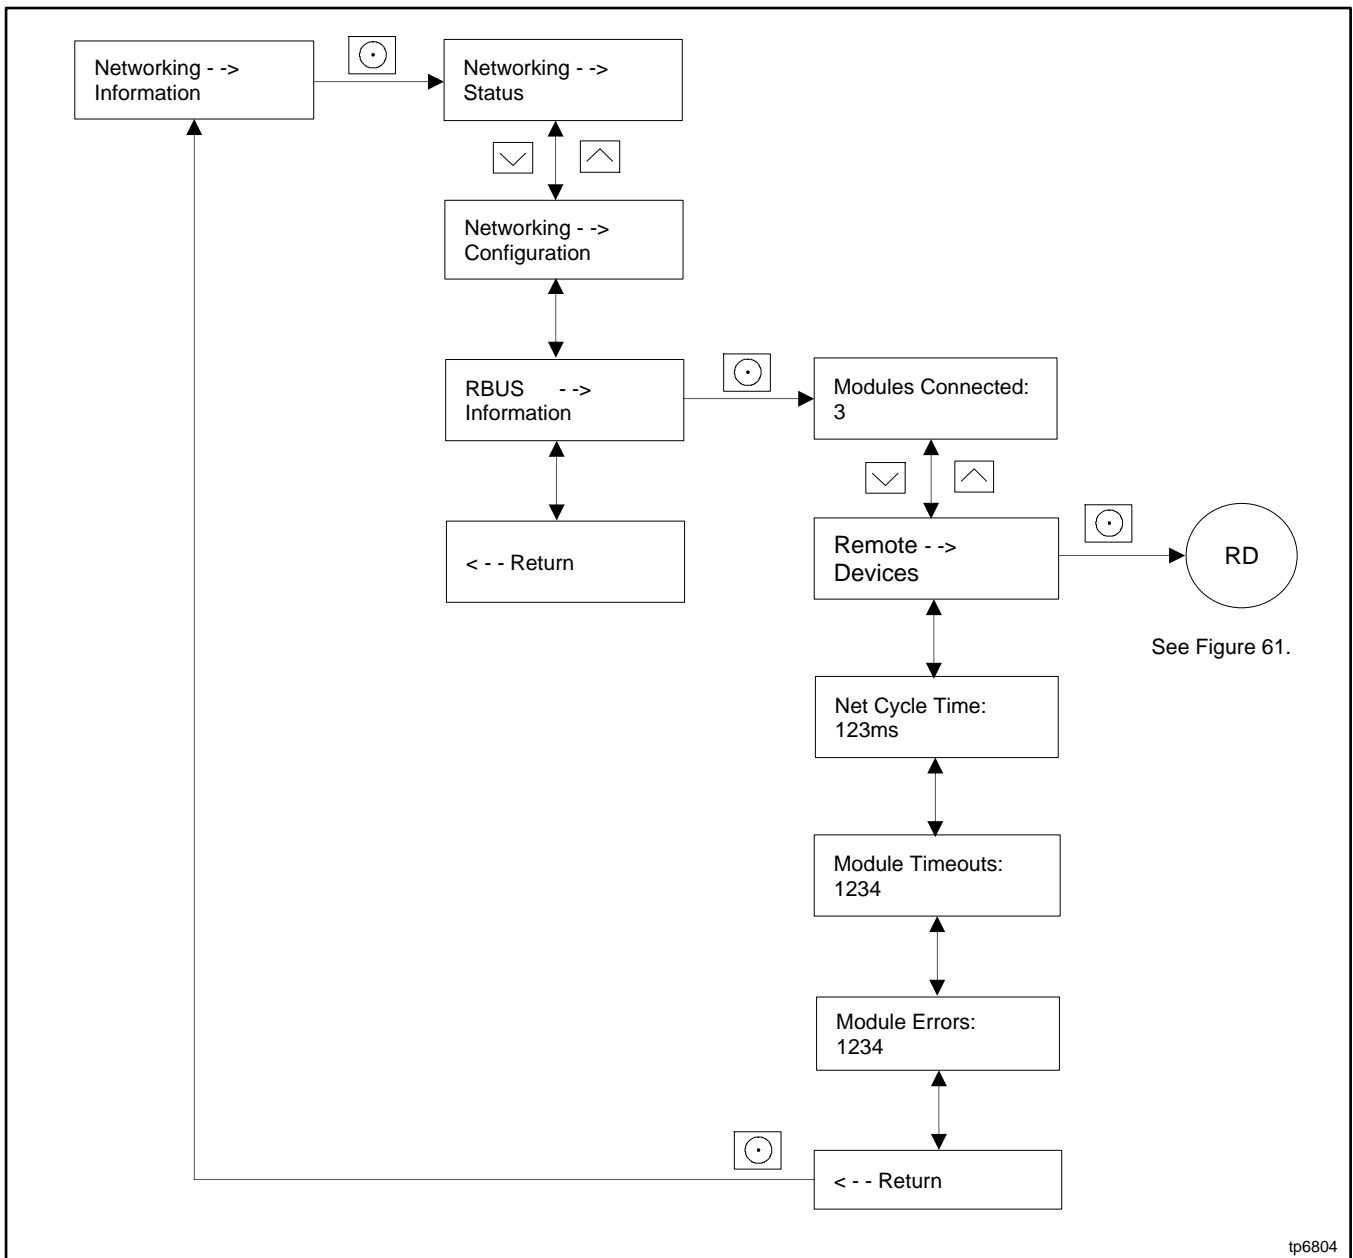
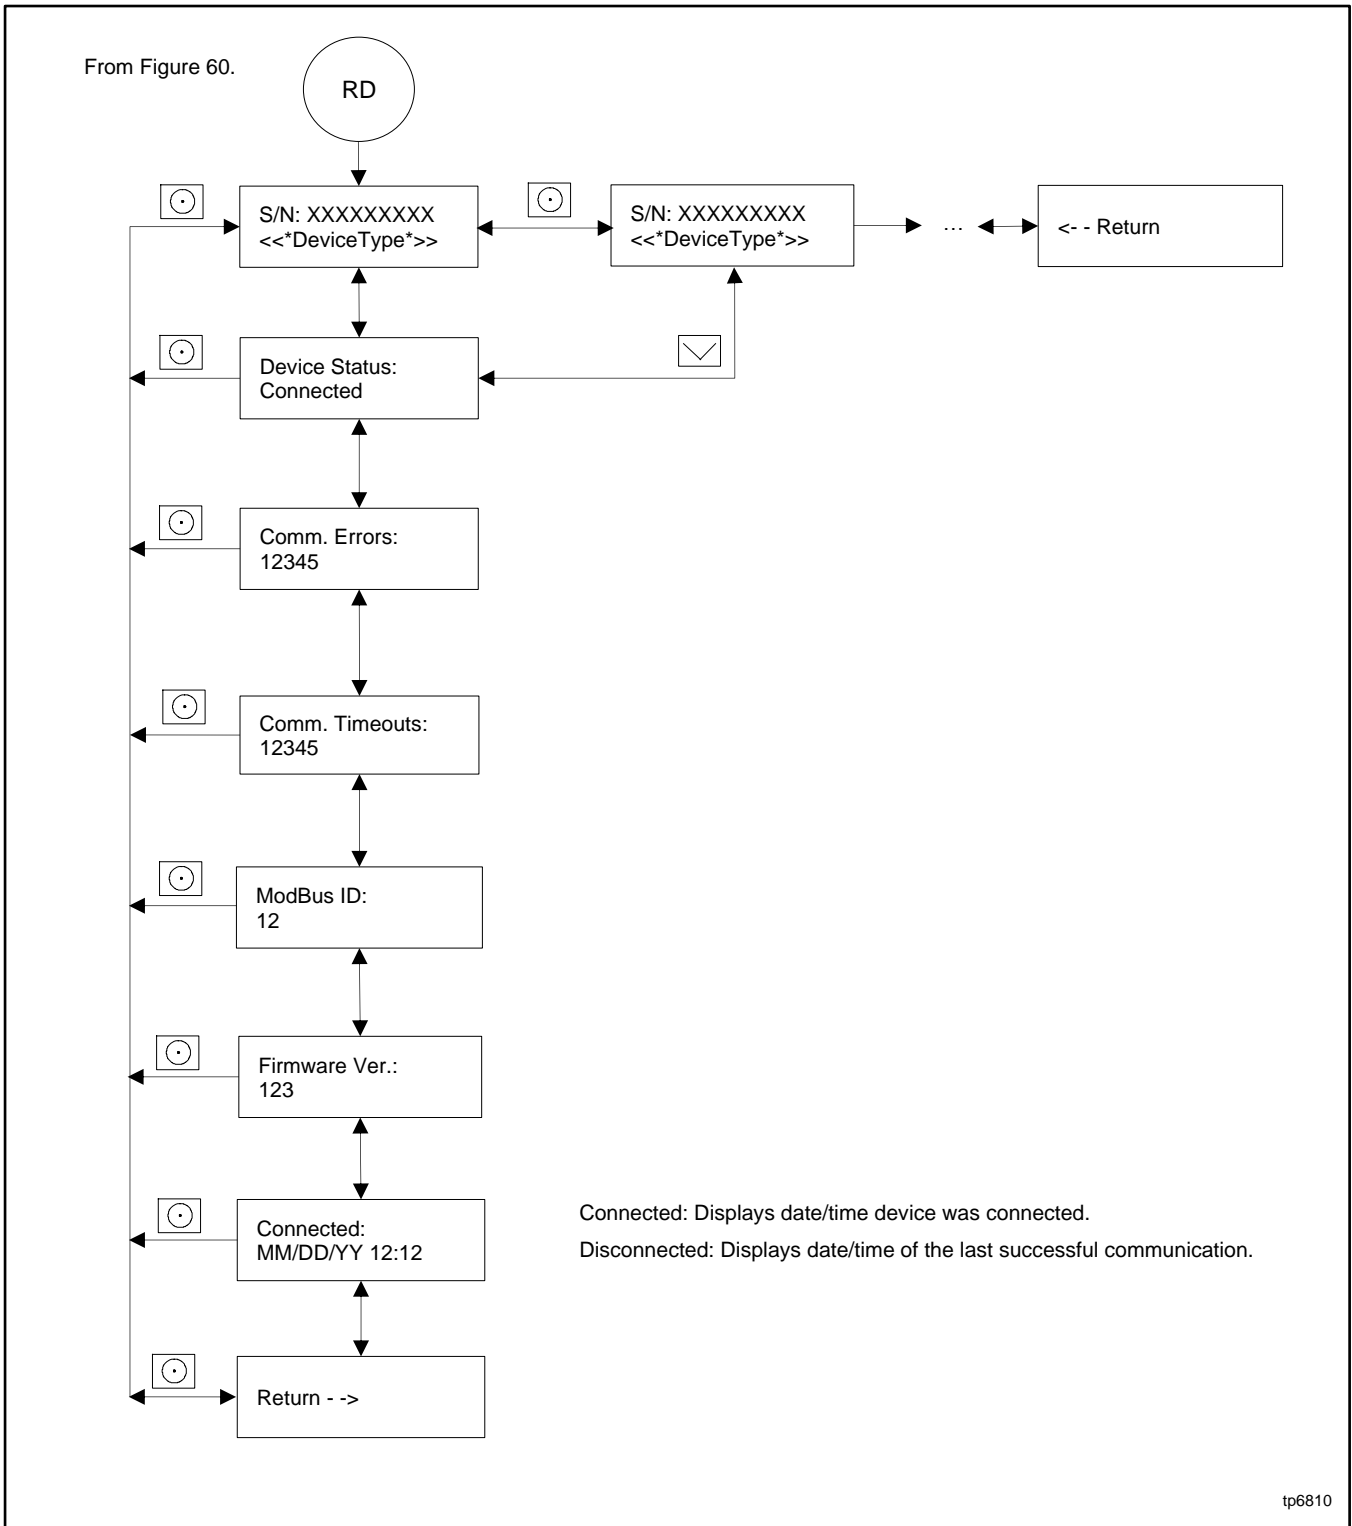

Figure 60 RDC2 Controller, Networking Information Menu
Figure 61 RDC2 Controller, Remote Devices Submenu
1. On the RDC2 controller, navigate to the Networking Menu and check the number of modules connected and the information for remote devices. See Figure 60 and Figure 61. The number should equal the number of RBUS devices connected, including the load management device, RXT transfer switch (if used), APM (if used), and the PIM (if used). A Model RDT transfer switch is not an RBUS device. Power relay modules connected to the load management device are not RBUS devices.